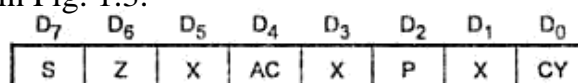

Fig. 1.3 Flag register
b) Flag Register: It is an 8-bit register, in which five of the bits carry significant information in the form of flags: S (Sign flag), Z (Zero flag), AC (Auxiliary Carry flag), P (Parity flag), and CY (Carry flag), as shown in Fig. 1.3.